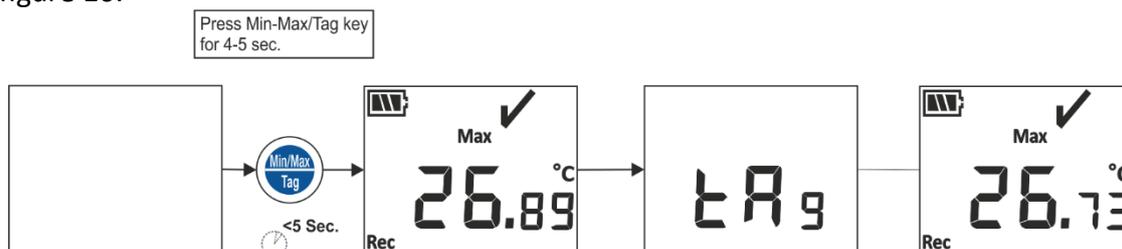

Figure 10 Insert Manual Tag
While recording of data is going on, user can enter special event with time stamp by pressing “Min/Max” key for more than 4 seconds. “Tag” message is seen on device display as shown in figure 10.
- 2) User can manually Stop the running batch if required, by pressing “**Min/Max**” key for about 10 seconds as shown in figure 10. Here a Manual Tag event will be logged prior to batch stop message.